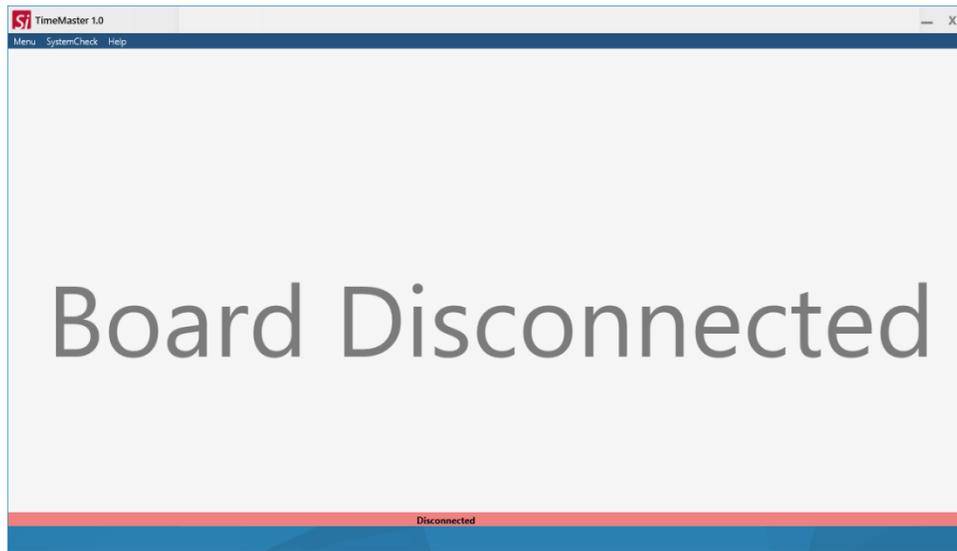

Figure 10: Startup GUI appearance when the board is disconnected
1. **Start with the board disconnected from the PC.** GUI will start with the default look (see Figure 10) reporting that the board is disconnected. After the board is connected the user should go to menu *SystemCheck->Initialize* to initialize the system.